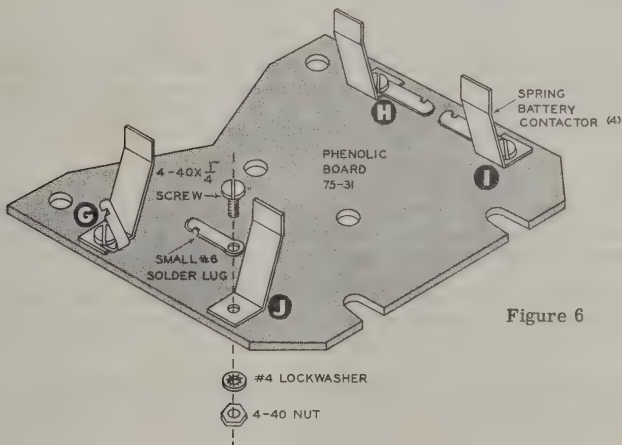

Figure 6
- (X) Refer to Figure 6 and use 4-40 hardware as shown. Mount the four spring battery contactors and small #6 solder lugs in their proper positions on the phenolic board. Use a 4-40 x 1/4" PHMS from the topside of the board through the small #6 solder lug first, then through a spring contactor (if too snug, use a screwdriver), the phenolic board, a #4 lockwasher and secure with a 4-40 nut. (Note that two of the solder lugs lay flat and two bend up.)